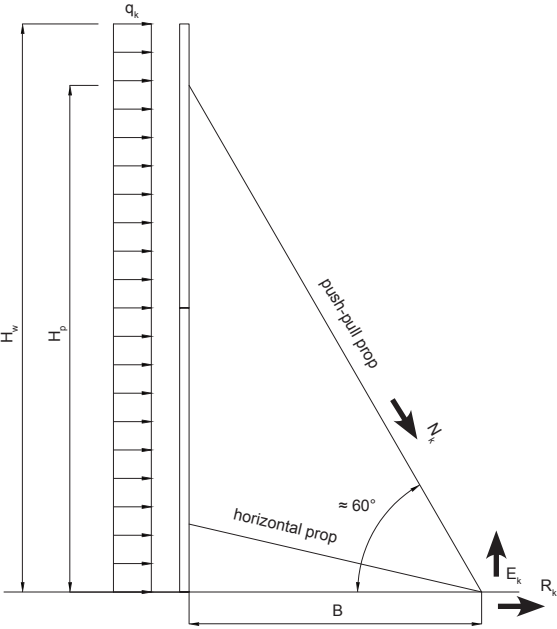

Fig. 38
- The table shows the maximum distance between struts depending on the height of the wall to be constructed and the strut type and extension (Tab. 18). The values have been evaluated with reference to the calculation scheme in Fig. 38, in accordance to the EN 12812 (Wind pressure $q_k = 0.65 \text{ kN/m}^2$, with $q_k = q_{ref} \cdot c_e \cdot c_p \cdot c_d$ where $q_{ref} = 0.2 \text{ kN/m}^2$, $c_e = 2.5$, $c_p = 1.3$, $c_d = 1$).